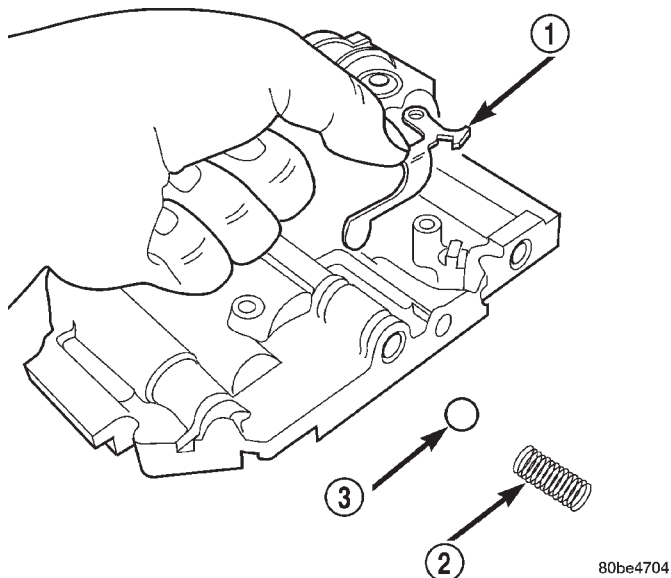

Fig. 135 Vent Reservoir Check Valve and Spring
(17) Remove vent reservoir check valve and spring (Fig. 135).